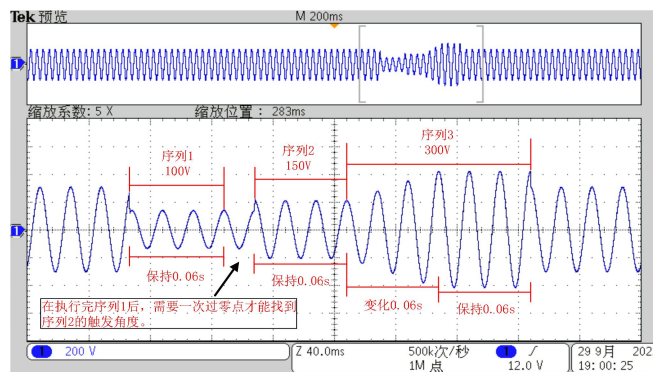

Figure 97 Advanced Programming Waveform Example Figure 1
- 5) Click 'Trigger' to display the programmed waveform on the oscilloscope (only the φ 1 waveform is shown here); see Figure 97.